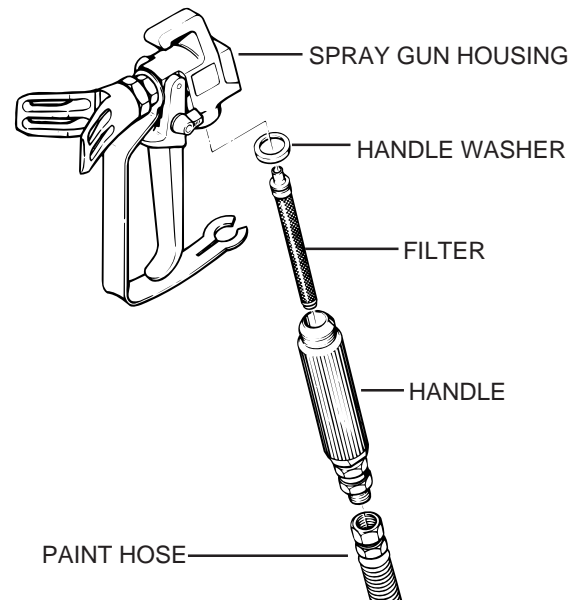

Figure 13.-Spray Gun Filter Removal and Replacement.
4. Remove the paint hose from the spray gun as shown in Figure 13.